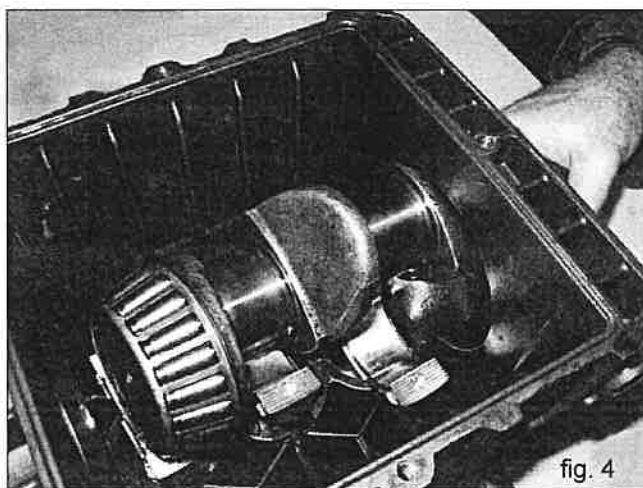

fig. 4
- Introduce the pre-assembled piston guide / connecting rod units into their seat; to facilitate tightening of the connecting rod cap, we advise to position the connecting rod so you can easily read the number. To easily introduce the crankshaft, without the key, fully push in the piston guide / connecting rod unit as indicated in section B of paragraph 2.1.1, and shown in fig. 4.